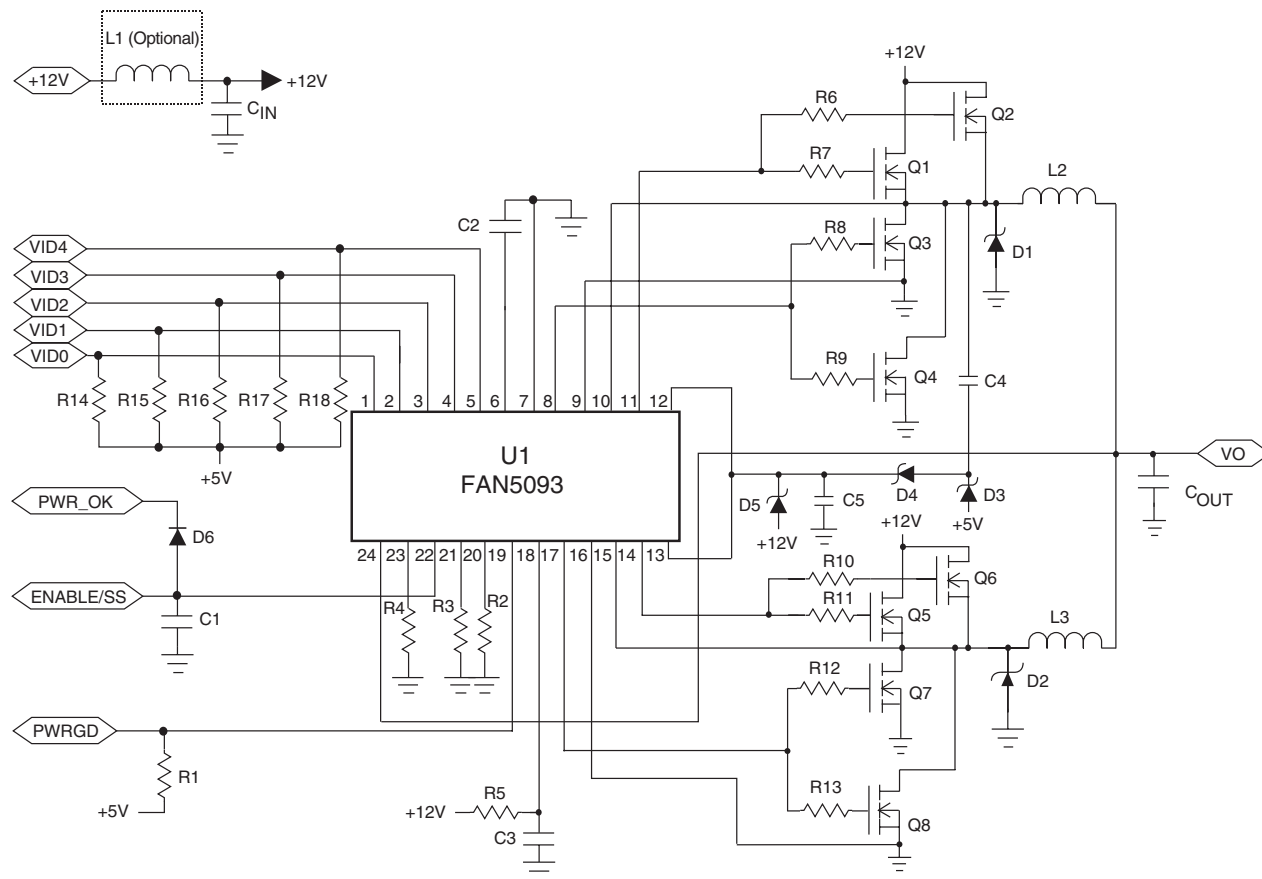

Figure 2. Application Circuit for 69A Willamette Low-Frequency Application (200KHz each phase)
( $V_{CC} = 12V$ , and  $T_A = +25^{\circ}C$  using circuit in Figure 2, unless otherwise noted.)
**Table 3. FAN5093 Application Bill of Materials for Figure 2**